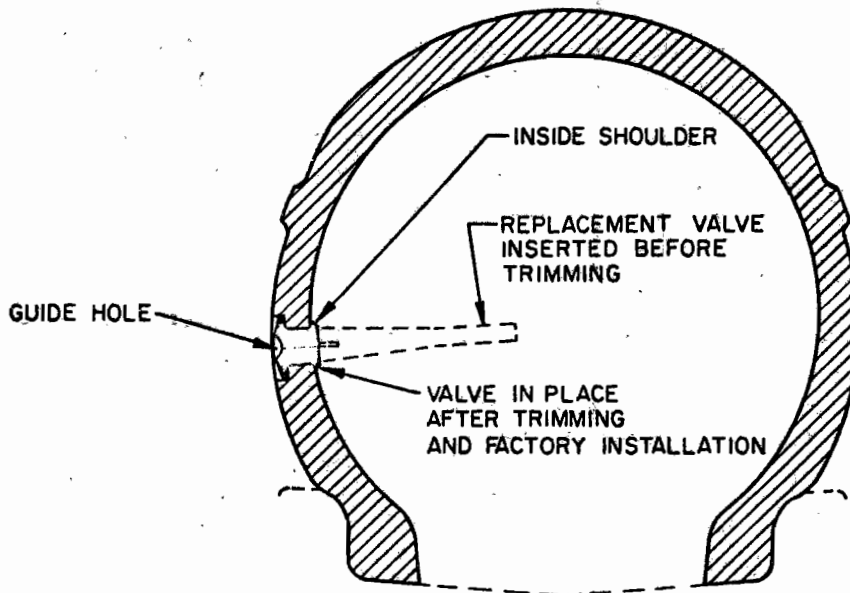

Figure 1 Sidewall Valve Tubeless Tire (Cross-section)
- c. Lubricate the end of the inflating needle by pressing it against the glycerine-saturated pad in the case, then lubricate the guide hole of the blue-colored valve with the needle. (See Figure 1)
- b. Cut off the inside shoulder of the sidewall valve to be removed with a pair of pincers or side-cutting pliers. (See Figure 1)
- e. Insert the small end of the tapered replacement valve through the valve hole in the tire wall from the outside. (See Figure 1)
- g. Cut off the tapered extension of the replacement valve (just below the shoulder) on the inside of the tire with a pair of pincers or side-cutting pliers. (See Figure 1)